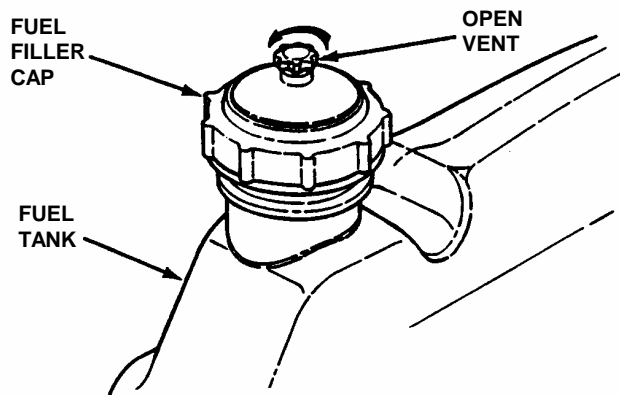

FIGURE 2.2
2.1.7. Add fuel to tank after pushing the Rear Engine Rider outside where fumes can dissipate. Make sure fuel filler cap is tight and vent is open after refueling. Refer to engine owner's manual for fuel specifications. See Figure 2.2.
4. Open vent on fuel filler cap by turning counterclockwise. **IMPORTANT:** Failure to open vent on the fuel filler cap can cause engine to stall. See Figure 2.2.
4. Open vent on fuel filler cap by turning counterclockwise. NOTE: Failure to open vent on the fuel filler cap can cause engine to stall. See Figure 2.2.